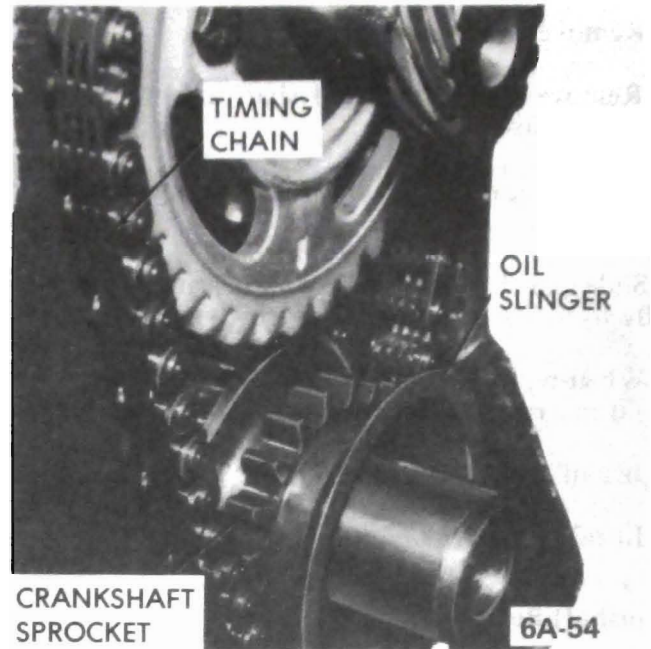

Figure 6A-54 - Oil Slinger Installation
3. Assemble timing chain on sprockets and slide the sprocket and chain assembly on the shafts with the timing marks in their closest together position and in line with the sprocket hubs. See Figure 6A-51.
4. Assemble slinger on crankshaft with I.D. against sprocket (concave side toward front of engine). See Figure 6A-54.
5. Slide fuel pump eccentric on camshaft with oil groove out board of keyway towards front of engine. See Figure 6A-52.
6. Install distributor drive gear. See Figure 6A-52.